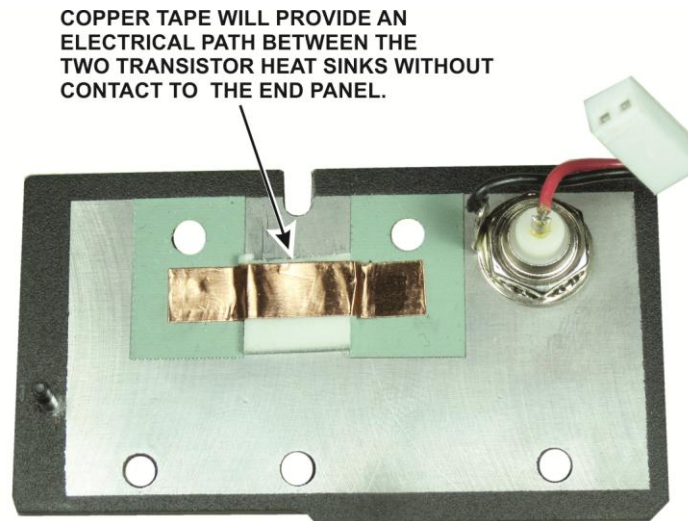

Figure 5. Modified End Panel.
- ☐ Remove the protective covering from the foam tape and from the copper tape. Carefully position the copper tape as shown in Figure 5. When the end panel is replaced, the copper tape must contact both transistor heat sinks, but not touch the end cover at any point.